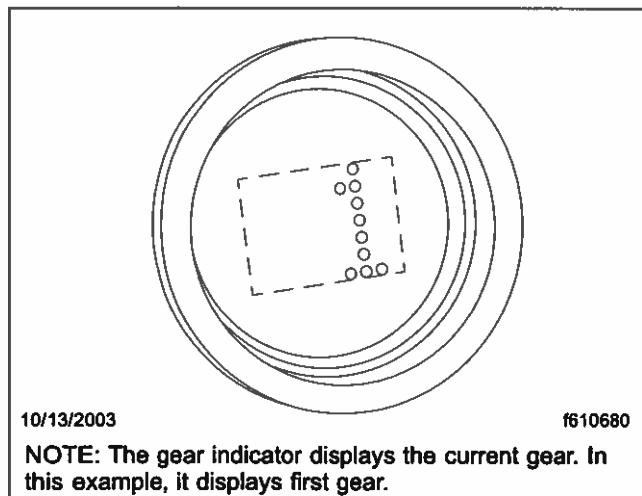

Fig. 8.27, Current Gear Display
In either mode, the gear indicator displays the current gear. See Fig. 8.27.
Drive (D) is at the lower end of the three-position selector switch located at the end of the SmartShift control lever. To select drive, press in the neutral lock button and move the selector switch to the position below N. When drive is selected, the number of the currently selected forward gear (1, 2, 3, 4, 5, or 6) displays on the gear indicator. See Fig. 8.27.